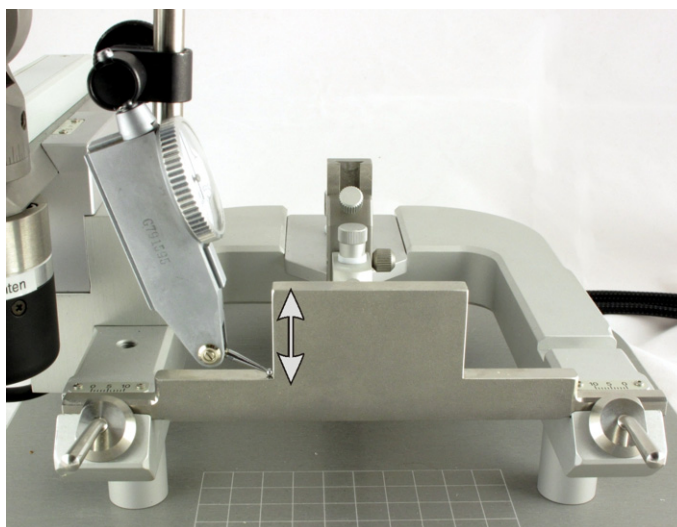

Figure 47. Vertical alignment when the tilt is in the ML direction
13. If the tilt is in the ML direction position the dial indicator spring against the side face of the T-bar (see Figure 47).